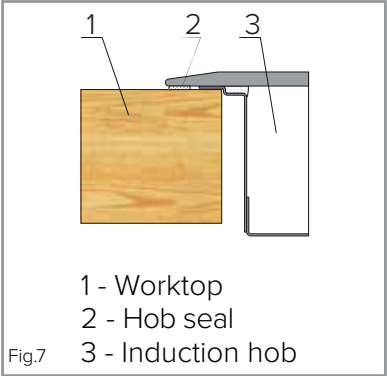

Fig.7
2. Make sure that the worktop is clean and dust free and insert the hob into the cut-out opening. Press the hob firmly into place so that the seal connects with the worktop (Fig. 7).